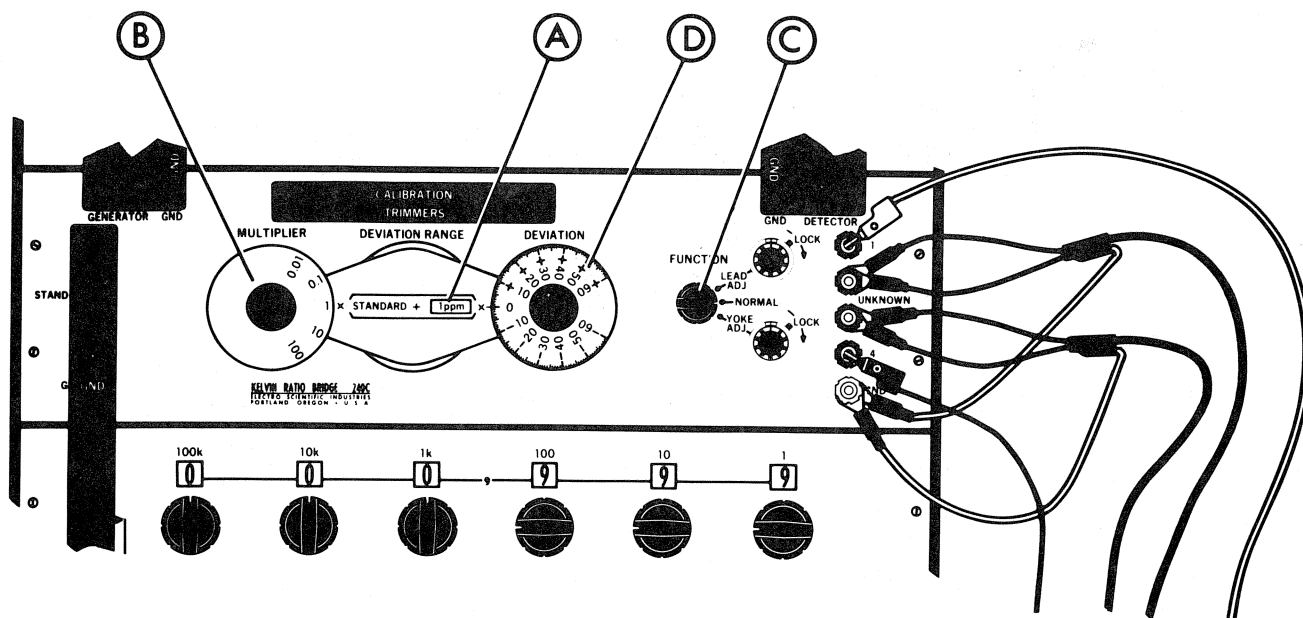

Figure 5-4. Bridge Dial Settings
3. Set the 242D Kelvin Bridge controls for measuring within a  $\pm 60$  ppm range. Reference Figure 5-4.
- D. Find the certified value of the 10 ohm standard resistor. Subtract the nominal value (10 ohms in this case) from the certified value. Divide the result by the nominal value (10) and multiply it by one million. This is the certified deviation in ppm, which is positive if the certified value is above the nominal value, negative if below. Set the bridge DEVIATION dial to the certified deviation. On the data sheet, record the certified deviation on the first (Certified Value) line.